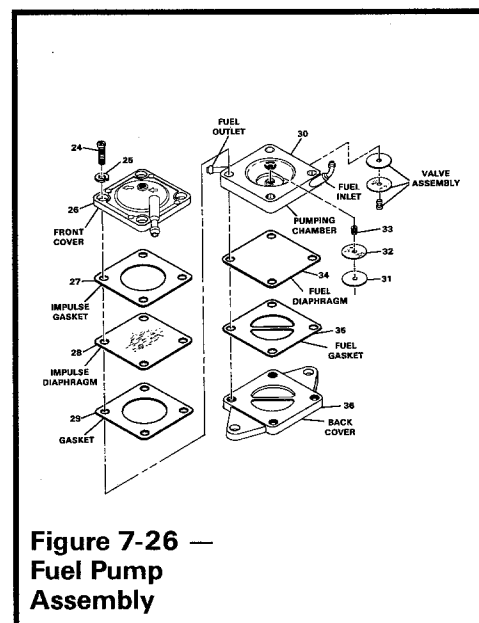

Figure 7-26 —
1. Remove the four screws (24) and lockwashers (25) from the front of the fuel pump (Figure 7-26).
2. Remove the front cover (26) of the fuel pump while holding other parts of the fuel pump intact.
3. If the impulse gasket (27) and diaphragm (28) come off with the front cover, remove them while noting their orientation.
1. Clean the front cover, pumping chamber, and back cover, in gasoline. Be sure vent on the front cover is clean on inside and outside (Figure 7-26).
1. Install fuel gasket (35) and diaphragm (34) to back cover (36).
2. Install valve assemblies in pumping chamber (**Figure 7-26**).